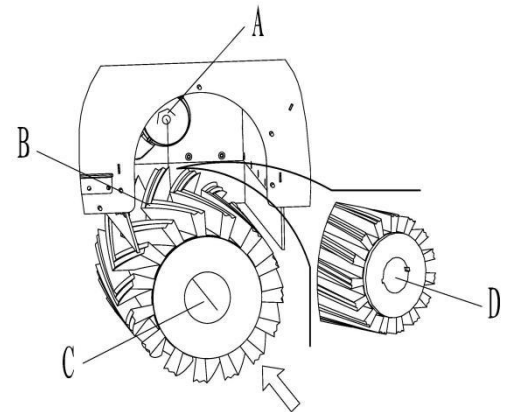

Figure 10.
10. The curls of the new main broom must be bent as shown in Figure 10.
11. Install the new main broom (C, FIG. 10) and ensure mesh (D) and associated drive hub (A).